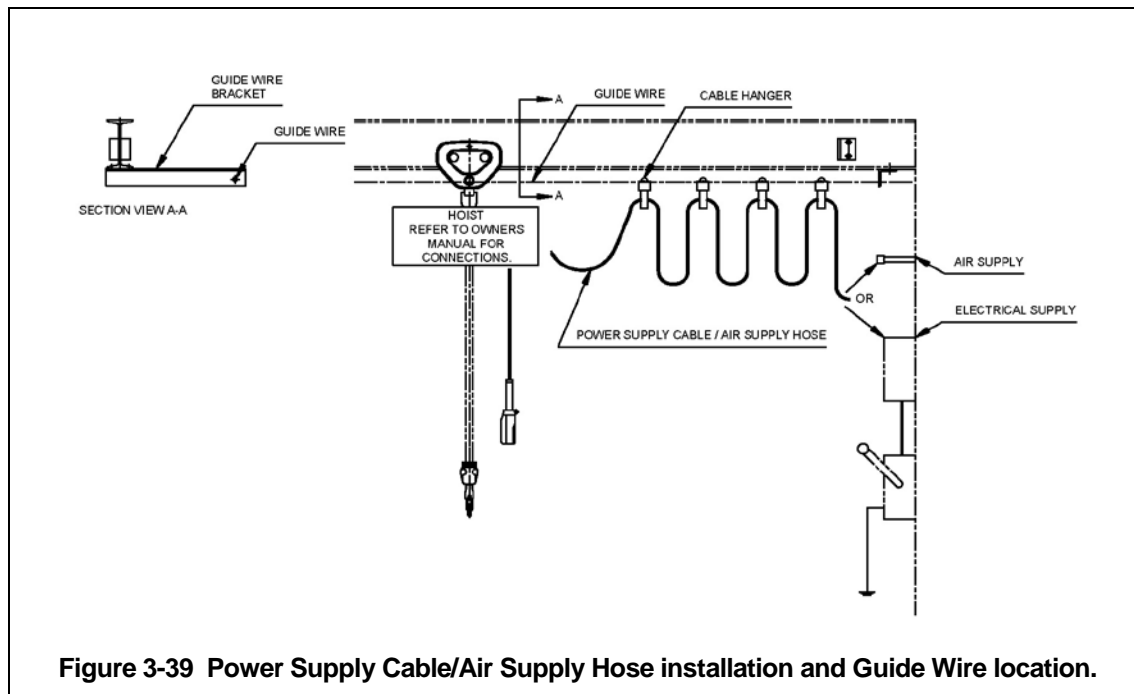

Figure 3-39 Power Supply Cable/Air Supply Hose installation and Guide Wire location.
- Install a guide wire system parallel to the beam. (See Figure 3-39)